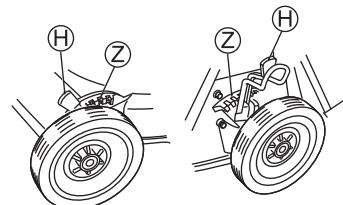

Fig. 21
2. Lean the cutting height adjustment lever (H) toward the wheel side, separating from the notches (dents) (Z). (See Figs. 21 and 22)
3. Insert the cutting height adjustment lever (H) into the notch (Z) for the target height with the lever kept leaned.